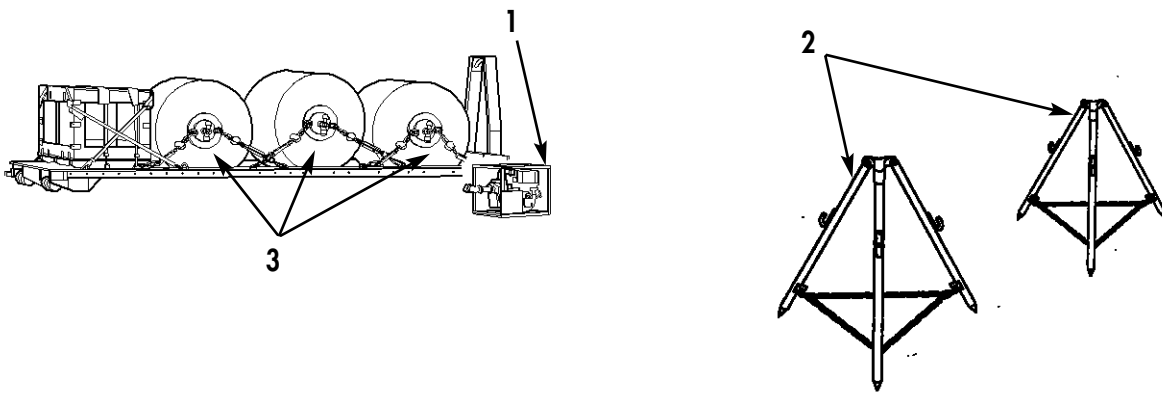

Figure 1. Placement of FAWPSS Components.
2. Ensure position of storage drums (Figure 1, Item 3) is adequate for assembly of FAWPSS. Refer to WP 0009 for positioning of PLS Flatrack or CROP containing FAWPSS storage drums (Figure 1, Item 3) and shipping crate.
3. Place pump unit (Figure 1, Item 1) and two nozzle stand assemblies (Figure 1, Item 2) on the ground in their approximate locations for the desired layout.